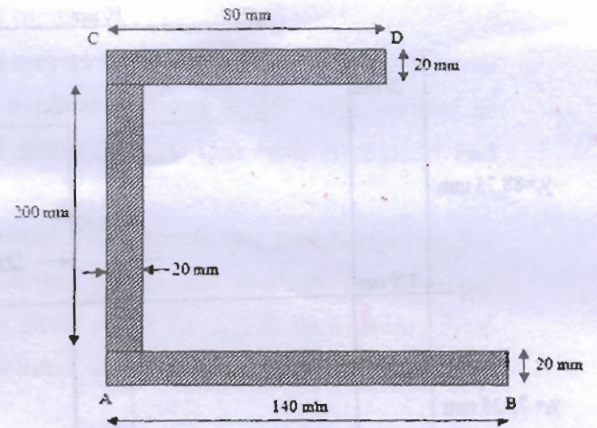

Fig. 8
- (b)** Determine the moment of inertia of the cross-section of an iron beam as shown in **Figure 8** with respect to the centroidal axis parallel to the base AB. 04